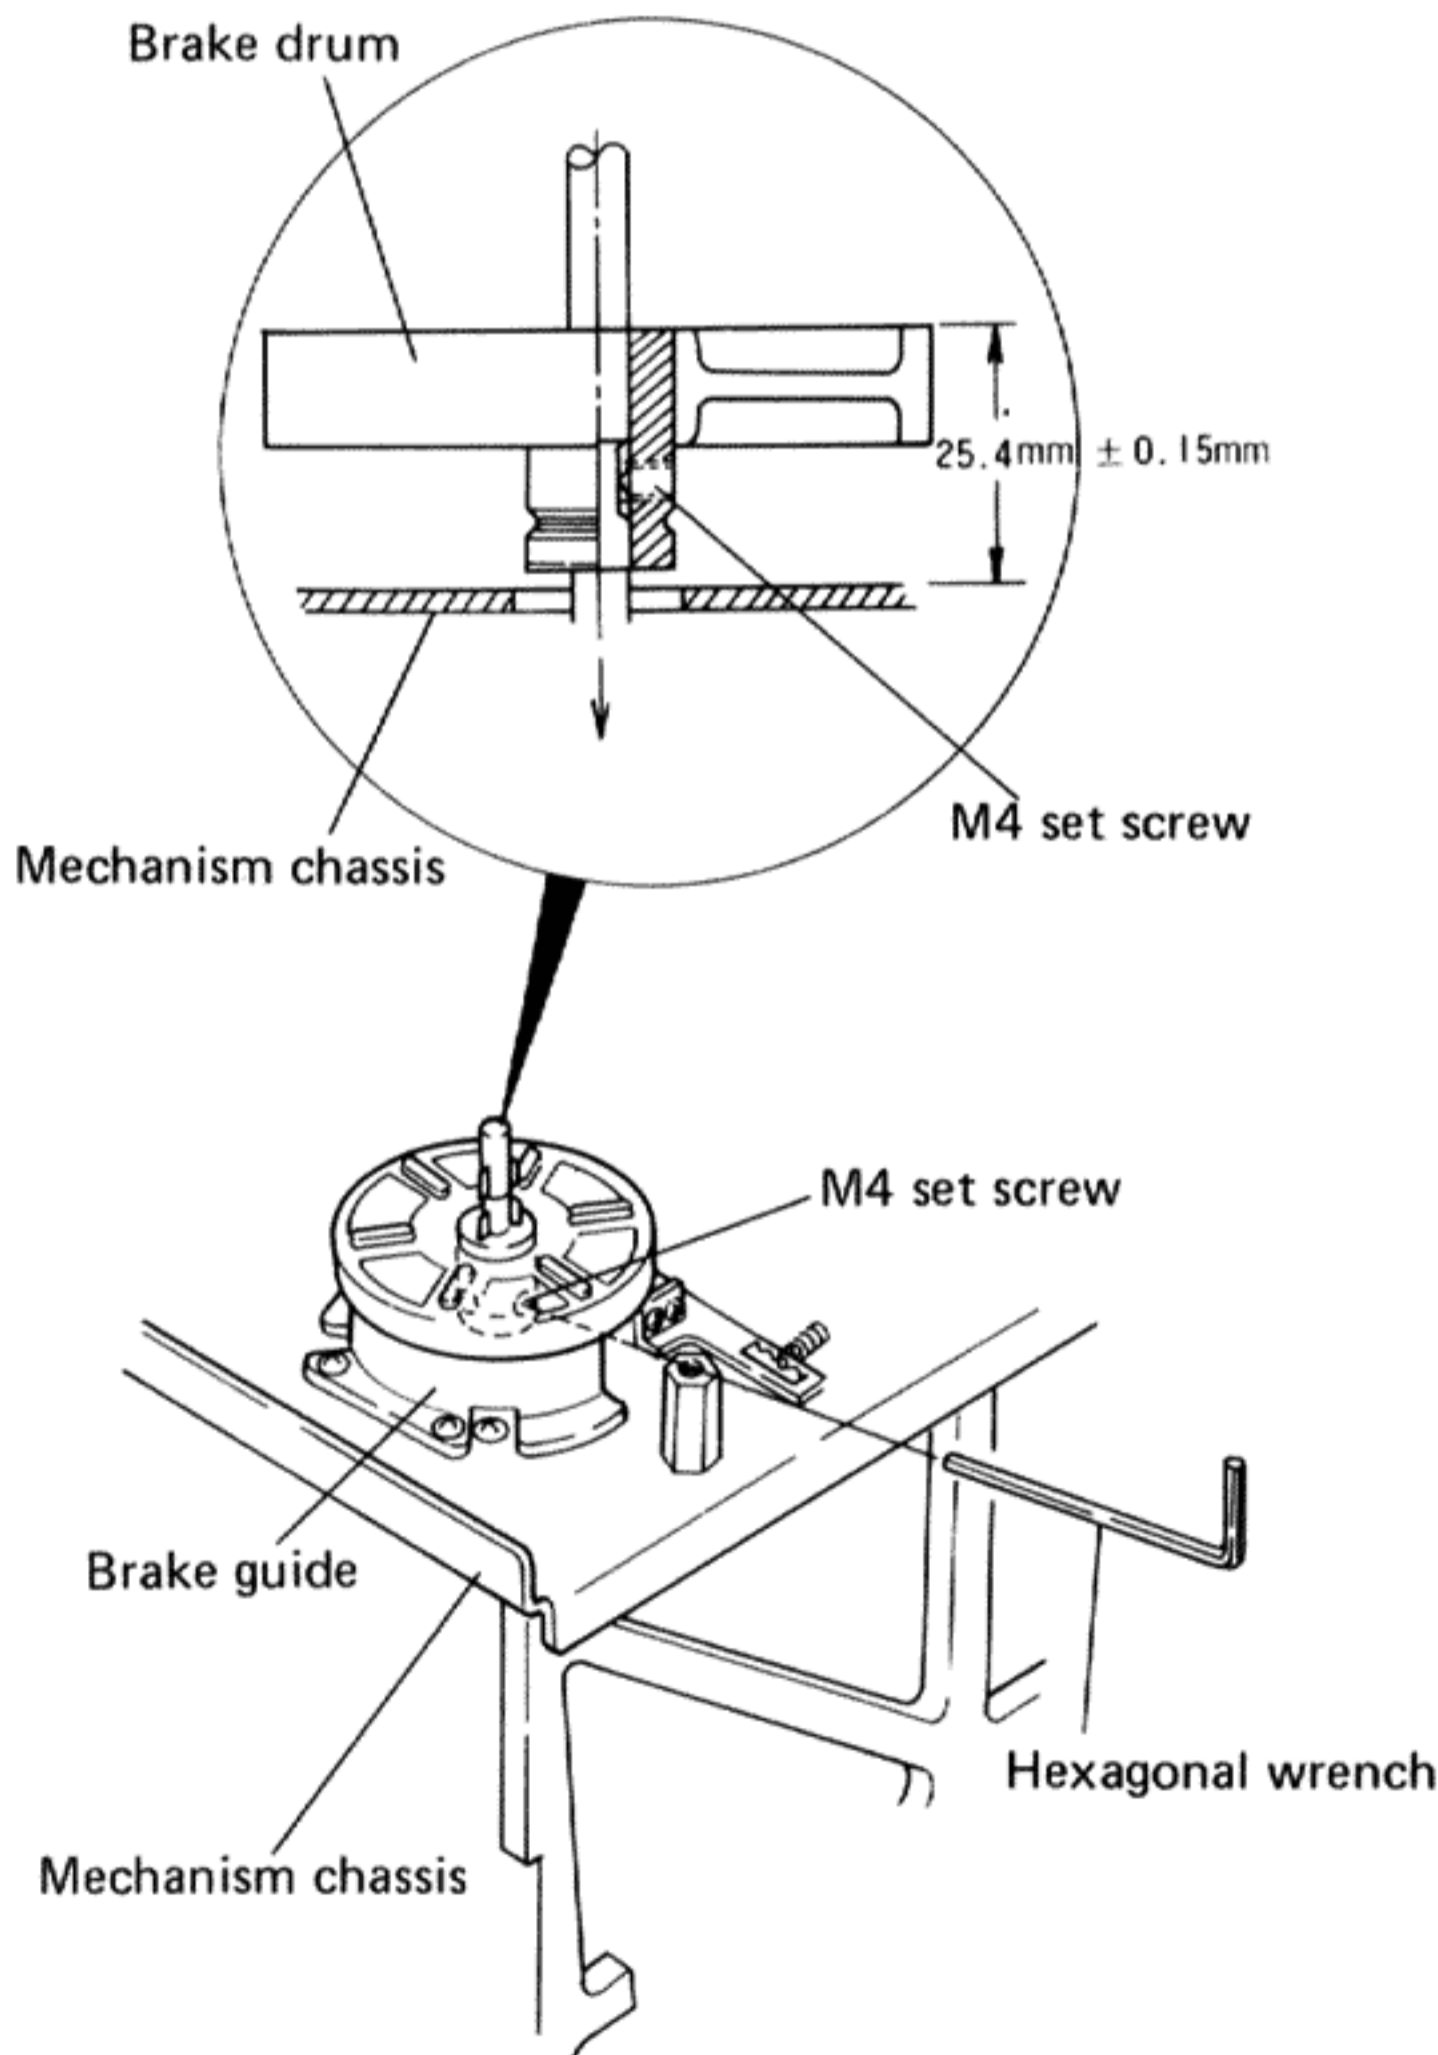

Fig. 22
2. Loosen and adjust the set screw with an allen wrench as illustrated in Fig. 22 so that the clearance between the mechanism and brake drum becomes $25.4\text{mm} \pm 0.15\text{mm}$.